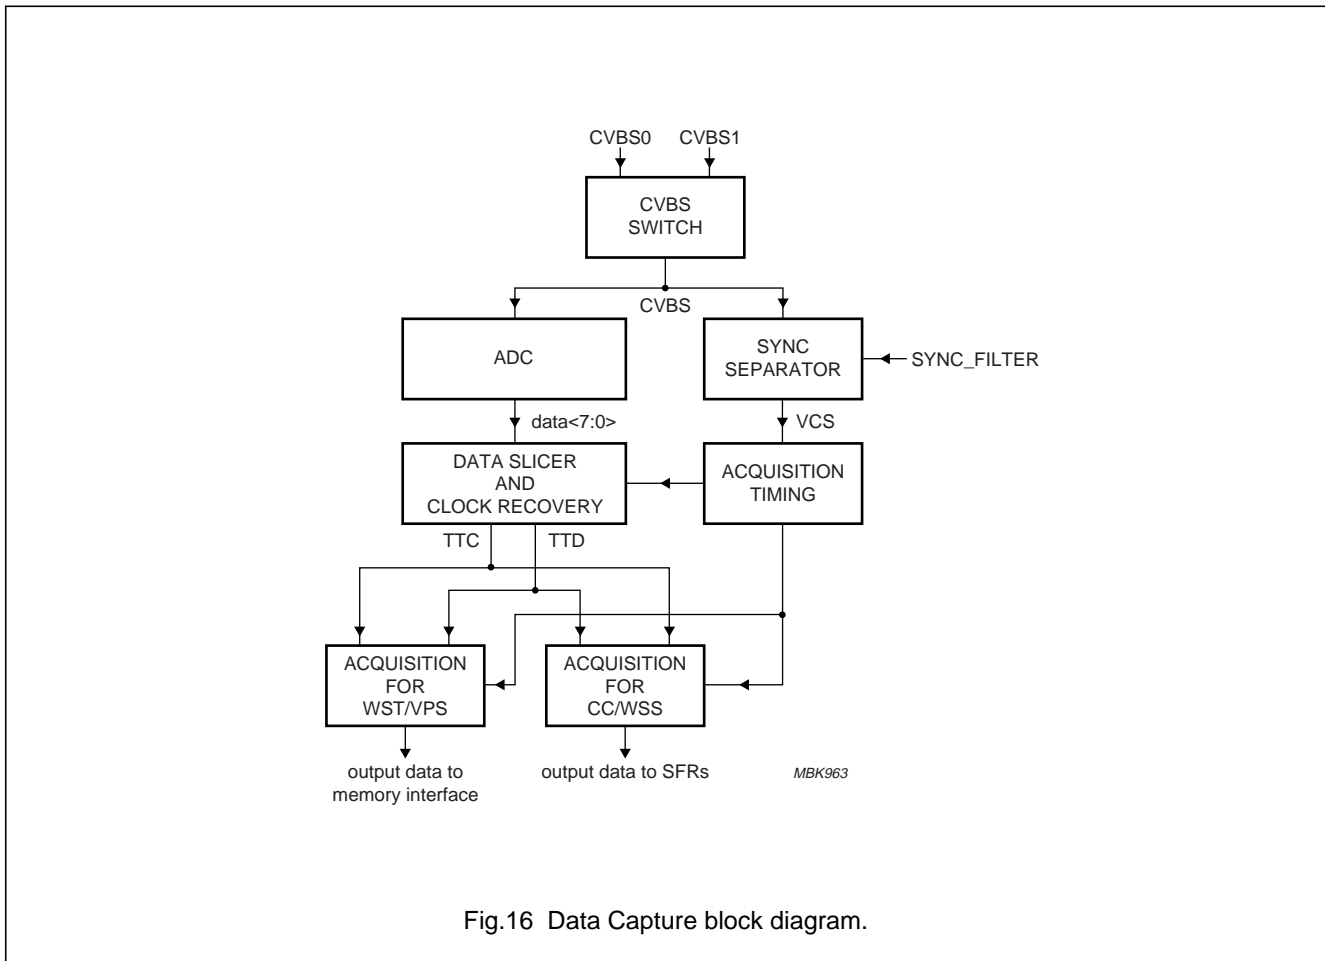

Fig.16 Data Capture block diagram.
The Data Capture section (see Fig.16) takes in the analog Composite Video and Blanking Signal (CVBS), and extracts the required data from it in the digital domain. The data is then decoded and stored in memory. The first stage converts the analog CVBS signal to digital form, using ADC sampling at 12 MHz. Data and clock recovery is then performed by a Multi-rate Video Input Processor (MulVIP). Next, the following types of data are extracted: WST Teletext (625/525), VPS, Closed Caption (CC) and WSS. The extracted data is stored in either memory (DRAM) via the Memory Interface or in SFR locations.
The output of the CVBS switch is passed to a Differential-to-Single-Ended Converter (DIVIS, not shown in Fig.16), although here it is used in single-ended configuration with a reference. A full-flash ADC with a sampling rate of 12 MHz converts the analog output of the DIVIS to a digital representation.